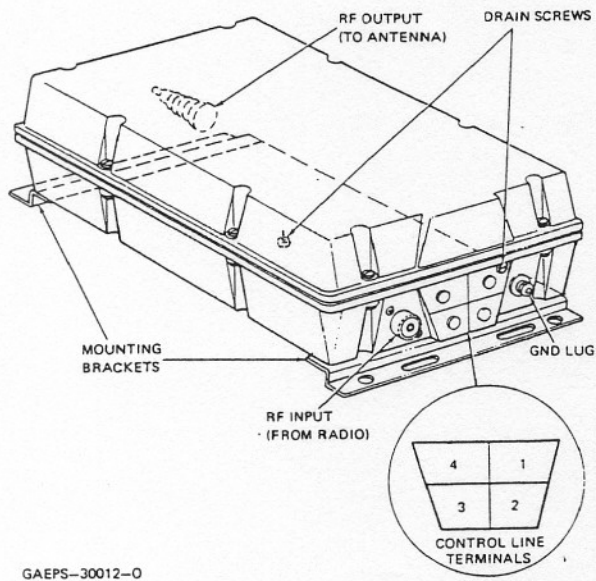

Figure 8. Antenna Tuner Housing
3.2 LOCATION (Refer to Figure 8.)